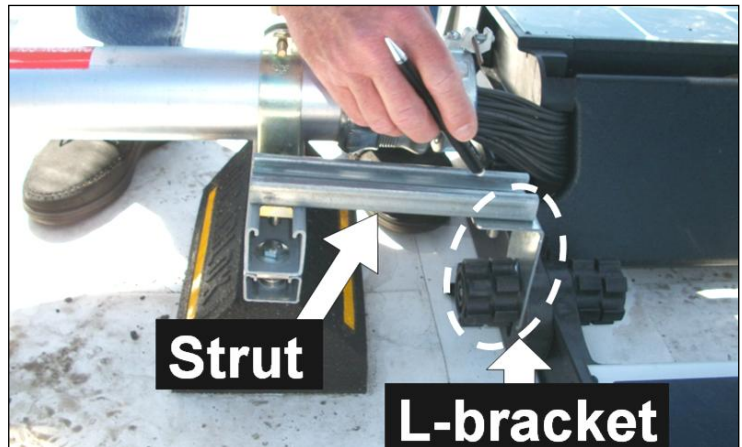

Fig. B2
1. Remove the required connectors, fit the L-bracket onto the connector bolt, and position the L-bracket so that its tab faces away from the array (Fig. B2).
3. Attach a short section of strut channel to the L-bracket tab and to the built-in channel on the conduit mount (Fig. B2).